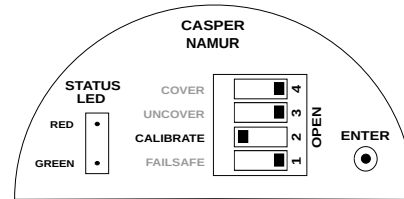

Figure 53: Calibration Switch Position
- To start the calibration process, set the CALIBRATE switch to CLOSE (Opposite of OPEN in a DIP switch) position as shown in Figure 53.
- Set the CALIBRATE switch to CLOSE (Opposite of OPEN in a DIP switch) position as shown in Figure 53.